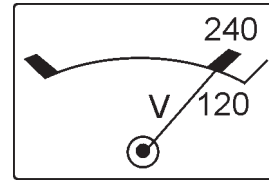

Figure 16. AC Voltmeter (120VAC)
- Refer to the AC voltmeter (Figure 16) on the control box. The voltage indicated on the voltmeter should be 120 VAC with no load applied.